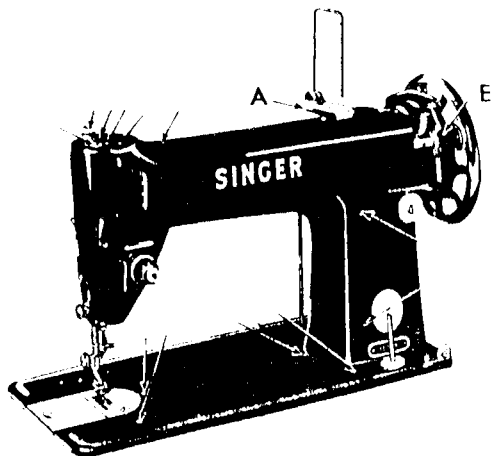

Fig. 2. Front View—Oiling Points
- Lift and remove arm top cover A, Fig. 2.
Occasionally apply a drop of oil to the bobbin winder at E, Fig. 2.